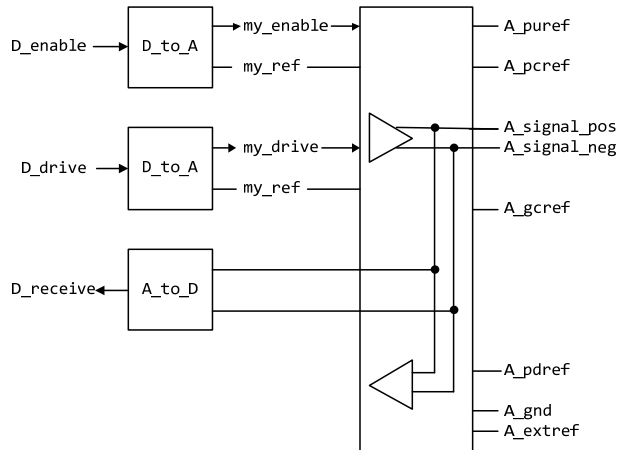

Figure 28 - Example SPICE, IBIS-ISS, Verilog-A(MS) or VHDL-A(MS) Implementation of a True Differential Buffer
- | The D_to_A or A_to_D adapters used for SPICE, IBIS-ISS, Verilog-A(MS) or VHDL-A(MS) files may be set up to control or respond to true differential ports. An example is shown in Figure 28.